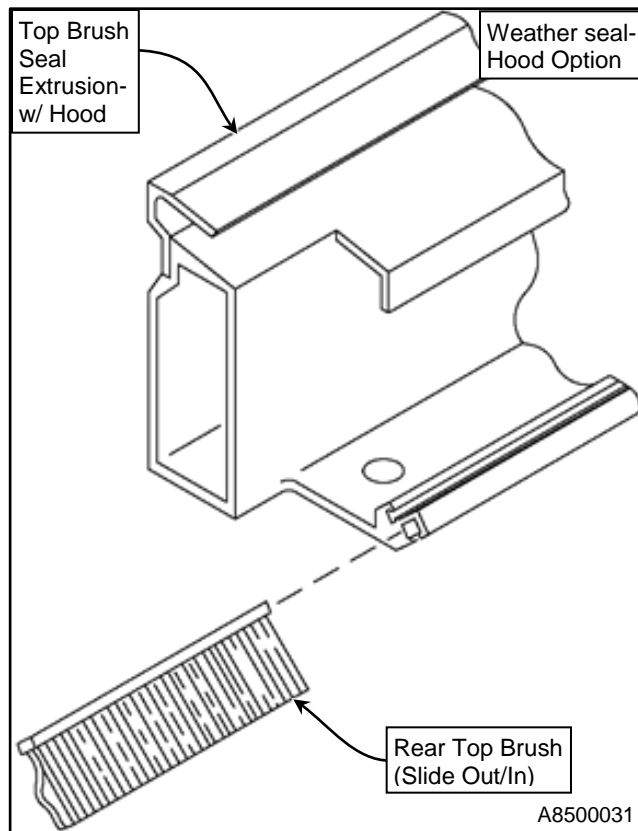
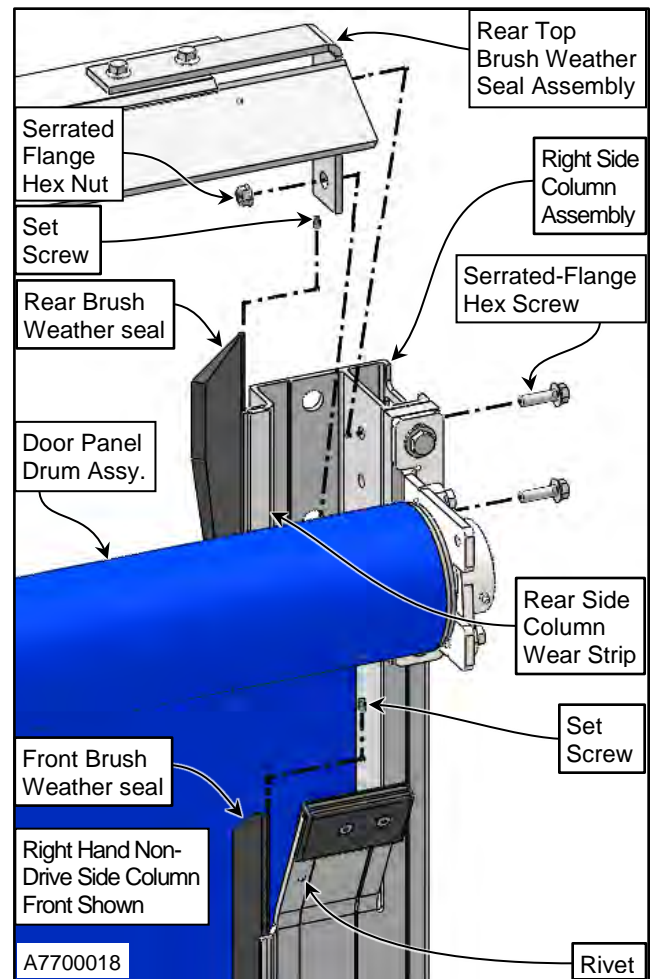

Figure 59
Figure 60
3. From either side, remove two serrated-flange hex screws and nuts securing the header brush seal assembly & support bracket to the side column. Also remove any fasteners supporting the header extrusion to the wall if applicable. (See Figure 59
6. Insert the new weather seal into the channel. (See Figure 59 & Figure 59 for positions)
3. Remove the top brush seal assembly as listed in the prior "Header Assembly" section. Remove the top set screws in the side columns & remove the brush seal(s). (See Figure 59 & Figure 60